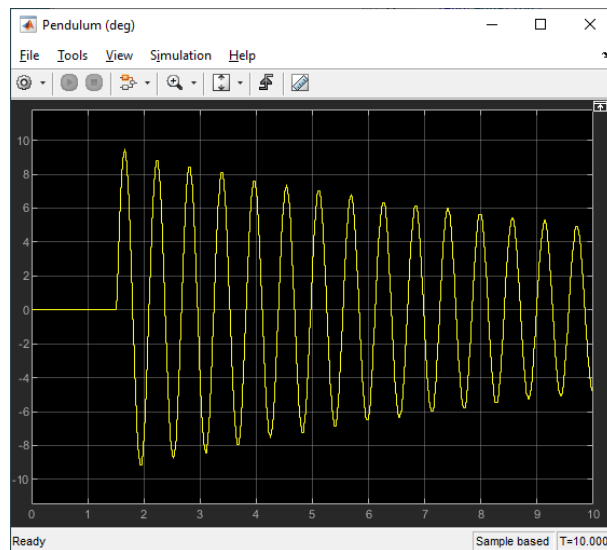

Figure 2.2: Free-oscillation response of pendulum
3. Build and run the **QUARC®** controller. With the controller running, manually perturb the pendulum while holding the rotary arm in place. The scope response should be similar to Figure 2.2.